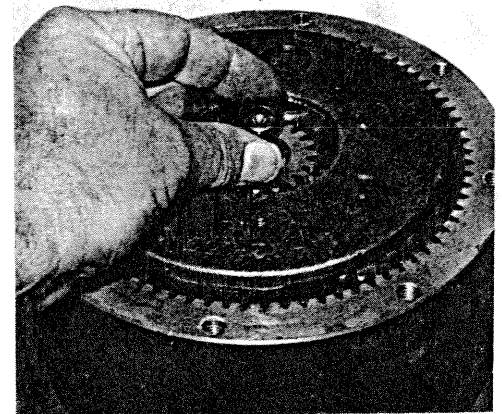

Figure 12 Assemble thrust washer
**STEP 6** Remove sun gear and thrust washer from end of input shaft, (Figure 12).
**STEP 14** Assemble the primary carrier and sun gear into ring gear, (Figure 12). It will be necessary to rotate carrier and pinion to align sun gear teeth with secondary pinion and primary pinions with ring gear teeth. Assemble the small sun gear over input shaft. Rotate sun gear to align shaft to gear splines and gear teeth.
**STEP 15** Assemble the small thrust washer over input shaft and against shoulder of shaft, (Figure 12).